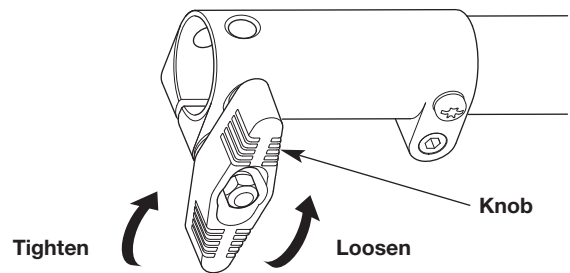

Fig. 3
3. Turn the knob counterclockwise to loosen the coupler (Fig. 3).
5. Turn the knob clockwise to tighten the coupler (Fig. 3).
2. Turn the knob counterclockwise to loosen the coupler (Fig. 3).